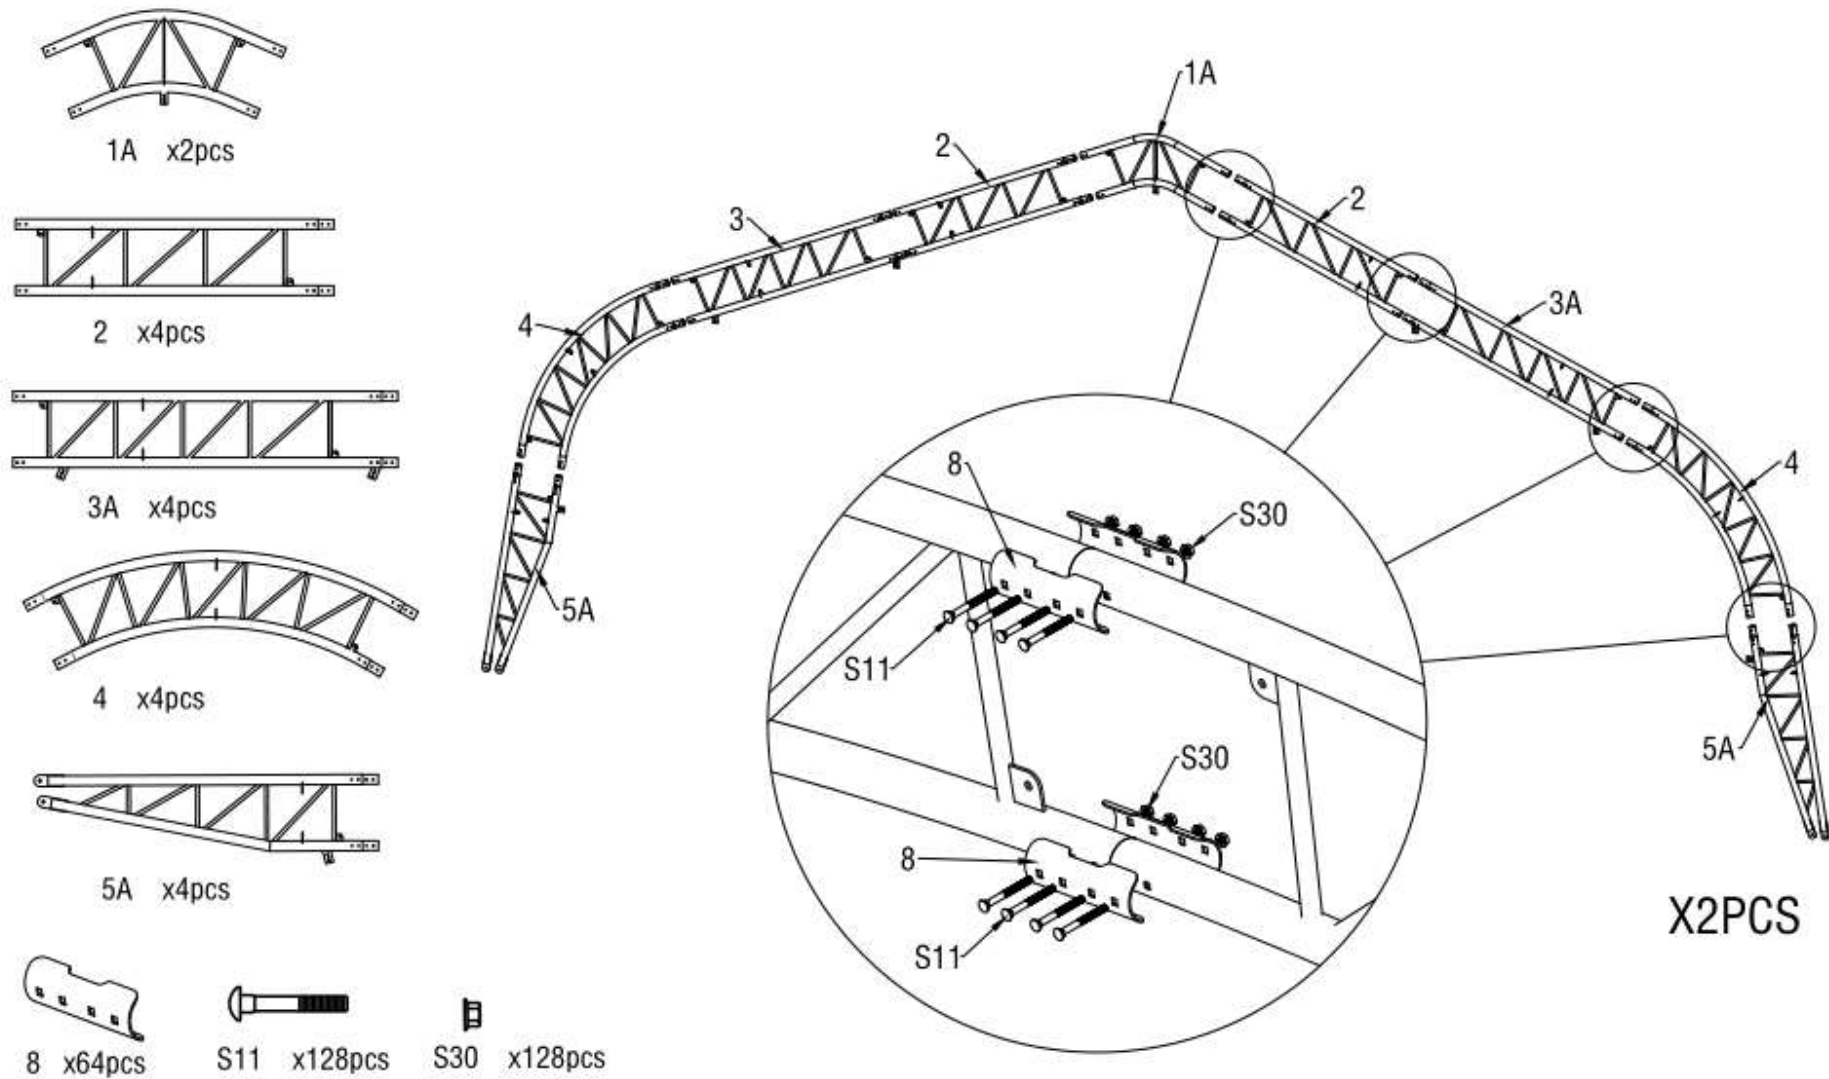

Figure 3
1. As Figure 3 shown to find one Top roof tube in the front and back door (No.1A), two Roof upper curving tube (No. 2), two Roof middle curving tube in the front and back door (No. 3A), two Side lower curving tube (No. 4), two Lower curving tube in front and back door (5A) and assemble the first group and final group of arch with Screw M10x90 (No.S11). **DO NOT install the screw on the top of the truss where the fabric will rest.**